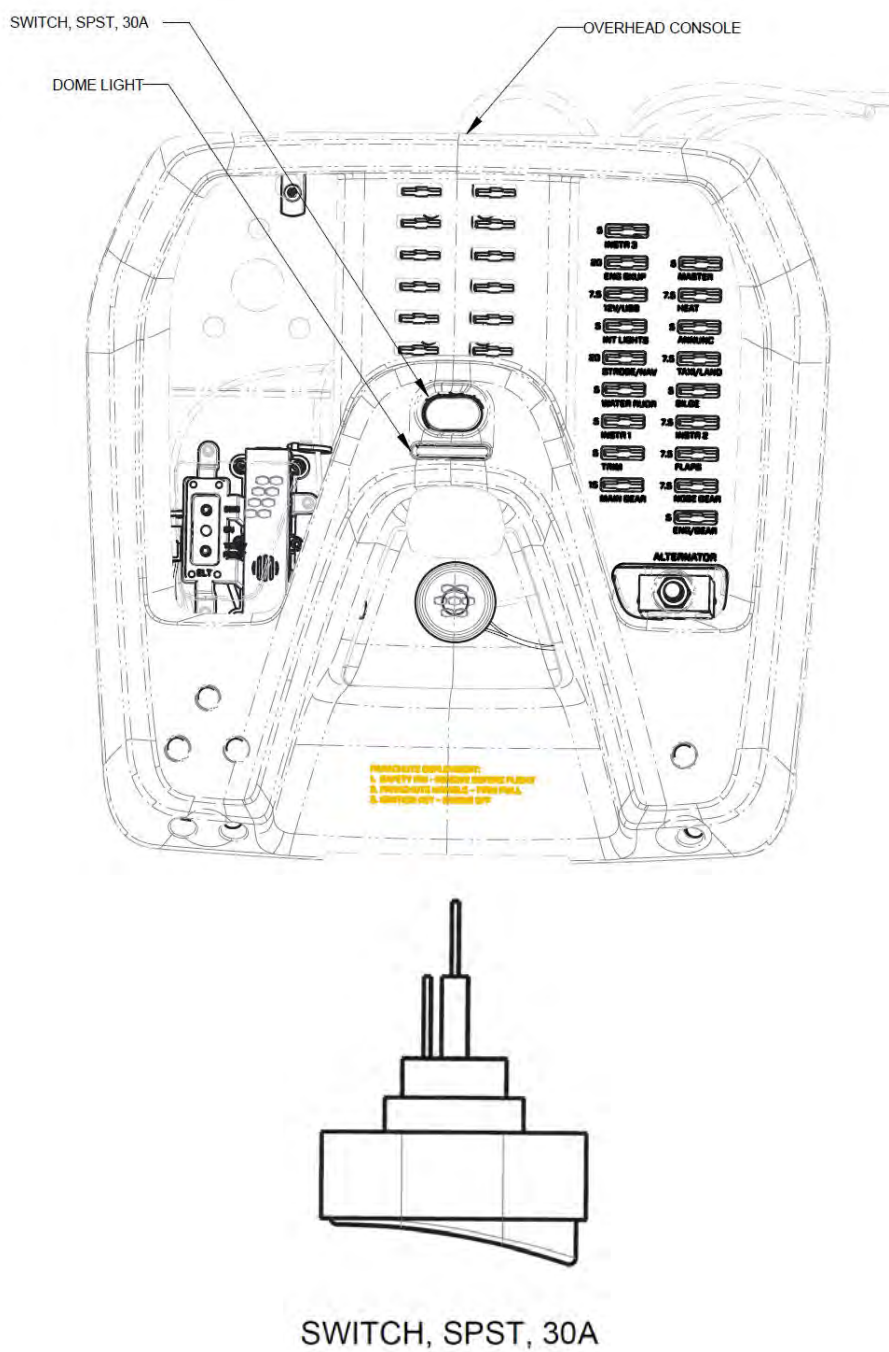

FIGURE 7-16
2. Carefully remove the connectors from short and long posts on SWITCH, SPST, 30A. (See Figure 7-16.)